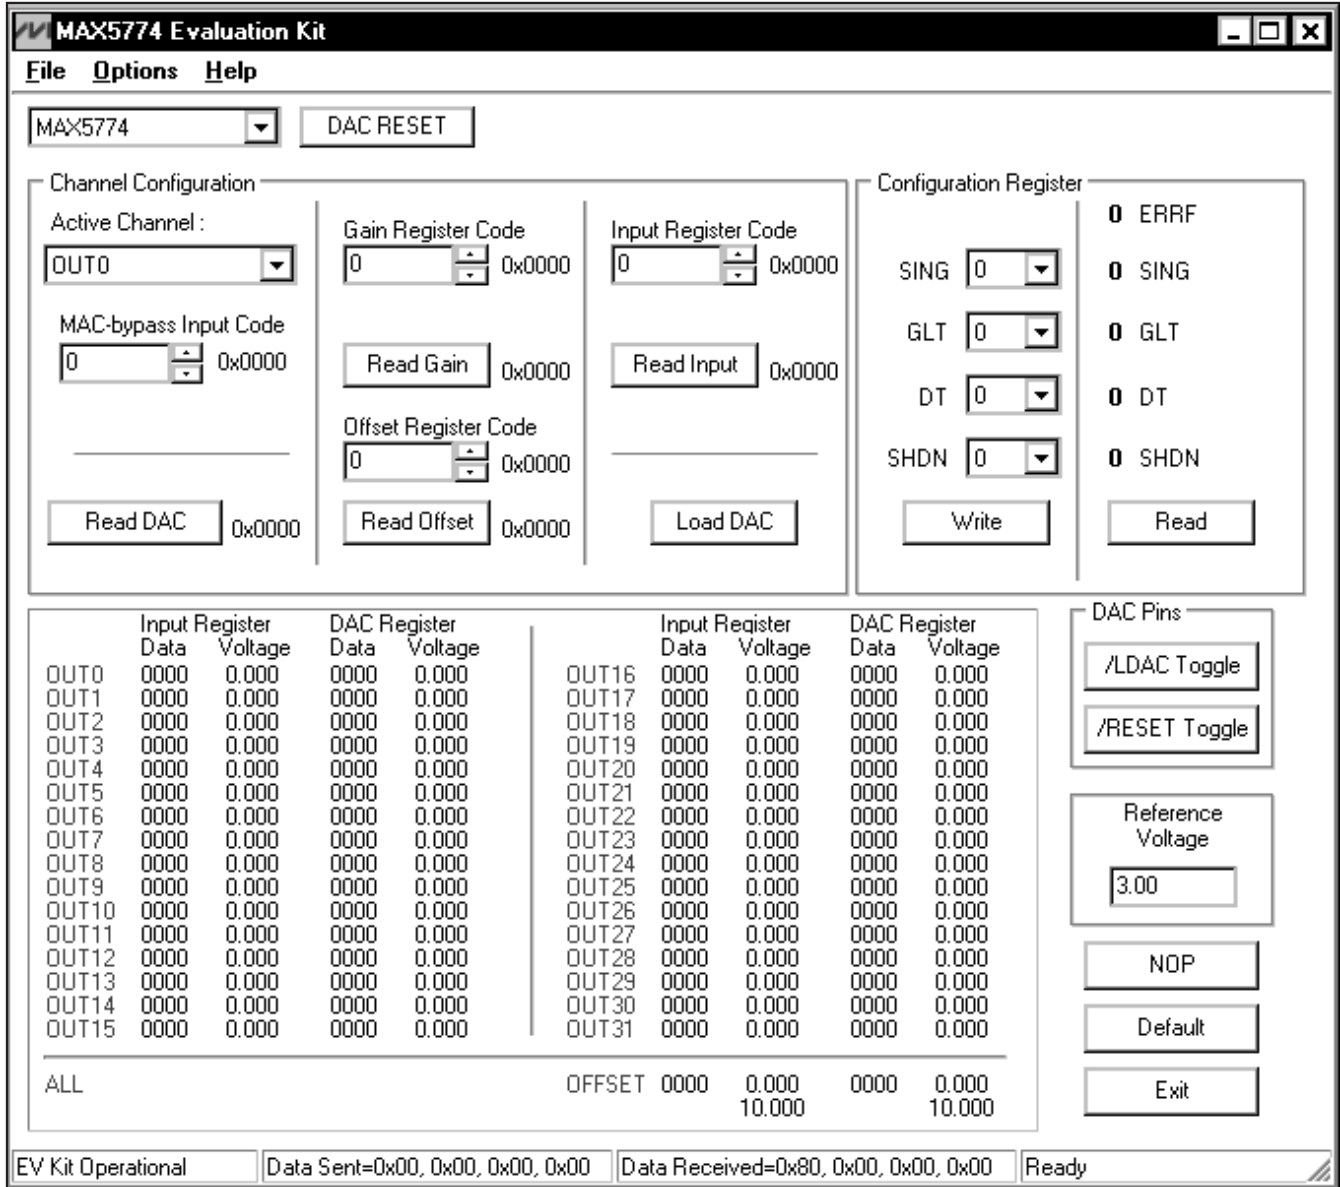

Figure 1. MAX5774 EV Kit Software Main Window (User-Interface Panel)
- 13) Start the MAX5774 EV kit software by opening its icon in the **Start | Programs** menu. The EV kit software main window appears, as shown in Figure 1.
The MAX5774 EV kit GUI software provides a user interface (Figure 1) to control each of the 32 channels on the MAX5774 DAC. To start the MAX5774 EV kit software, double-click the MAX5774 EV kit icon created during installation. The user will have to wait approximately 15s while the software detects and configures the MAX5774 EV kit.
The user interface (Figure 1) is easy to operate; use the mouse, or press the Tab and arrow keys to navigate the window. After updating a value in a spin or edit box, press the keyboard's Enter key or exit the box to submit the value to the EV kit software. The status bar located at the bottom of the GUI window displays the status of the EV kit board during power-up, data sent and data received in hexadecimal format, and general software status.